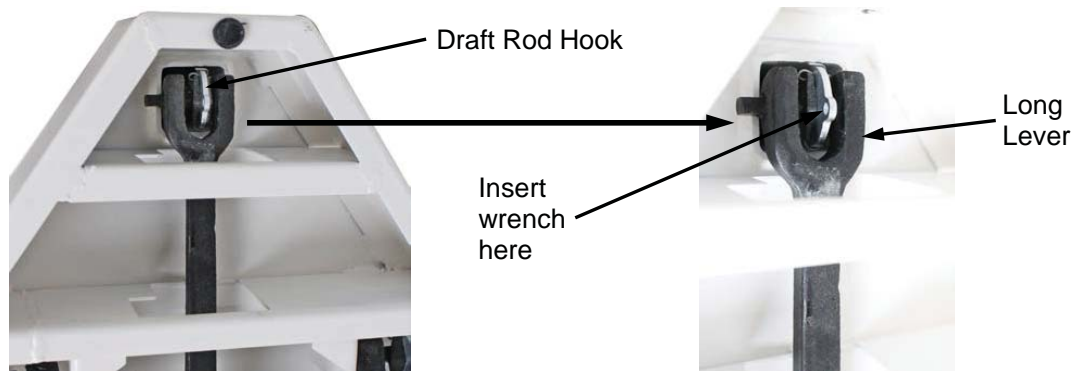

Figure 5. - Connect draft rod hook to the long lever
6. Insert the wrench (included) into the small hole in front of the draft rod and pull the draft rod hook with the wrench to connect it to the long lever as shown in Figure 5. The draft rod is located inside the scale column. Once the column is attached to the scale base, the draft rod must be attached to the long lever.
Beam does not move at all during weighing	<ul style="list-style-type: none"> Small and large poise is set higher than the person's actual weight. Reset both poise to a lower or zero weight. Make sure the draft rod is properly connected and aligned as shown in Figure 5.